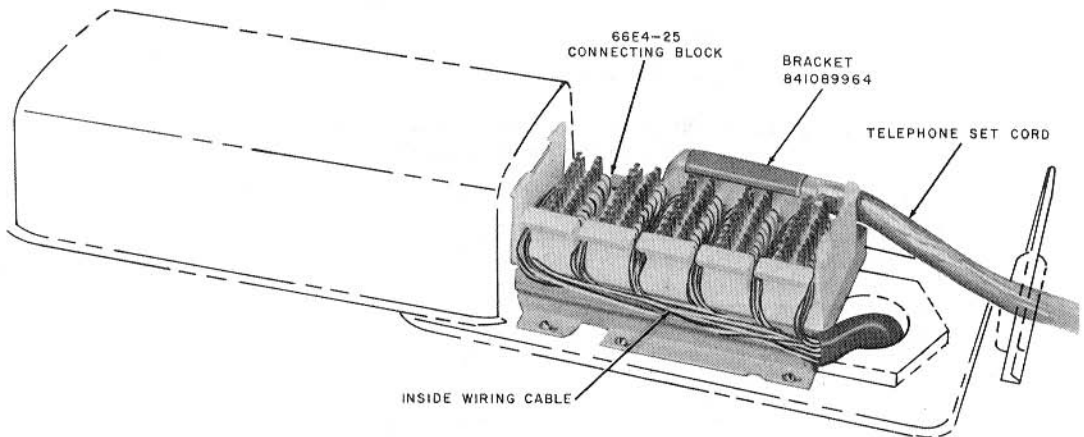

Fig. 5—66E4-25 Connecting Block Installed in Commercial Fitting
**3.03** This connecting block is designed for use with existing commercial underfloor or overfloor duct service fittings. Fig. 5 shows its use with a commercial service fitting. If tapped holes in the fitting do not line up with holes in the connecting block mounting bracket, drill holes in the fitting to accept No. 8 self-tapping screws.